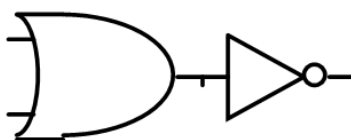

Figure 3.24a: OR followed by NOT
5. **The NOR gate:** The NOR gate is also derived from an OR gate followed by an inverter, as shown in Figure 3.24a